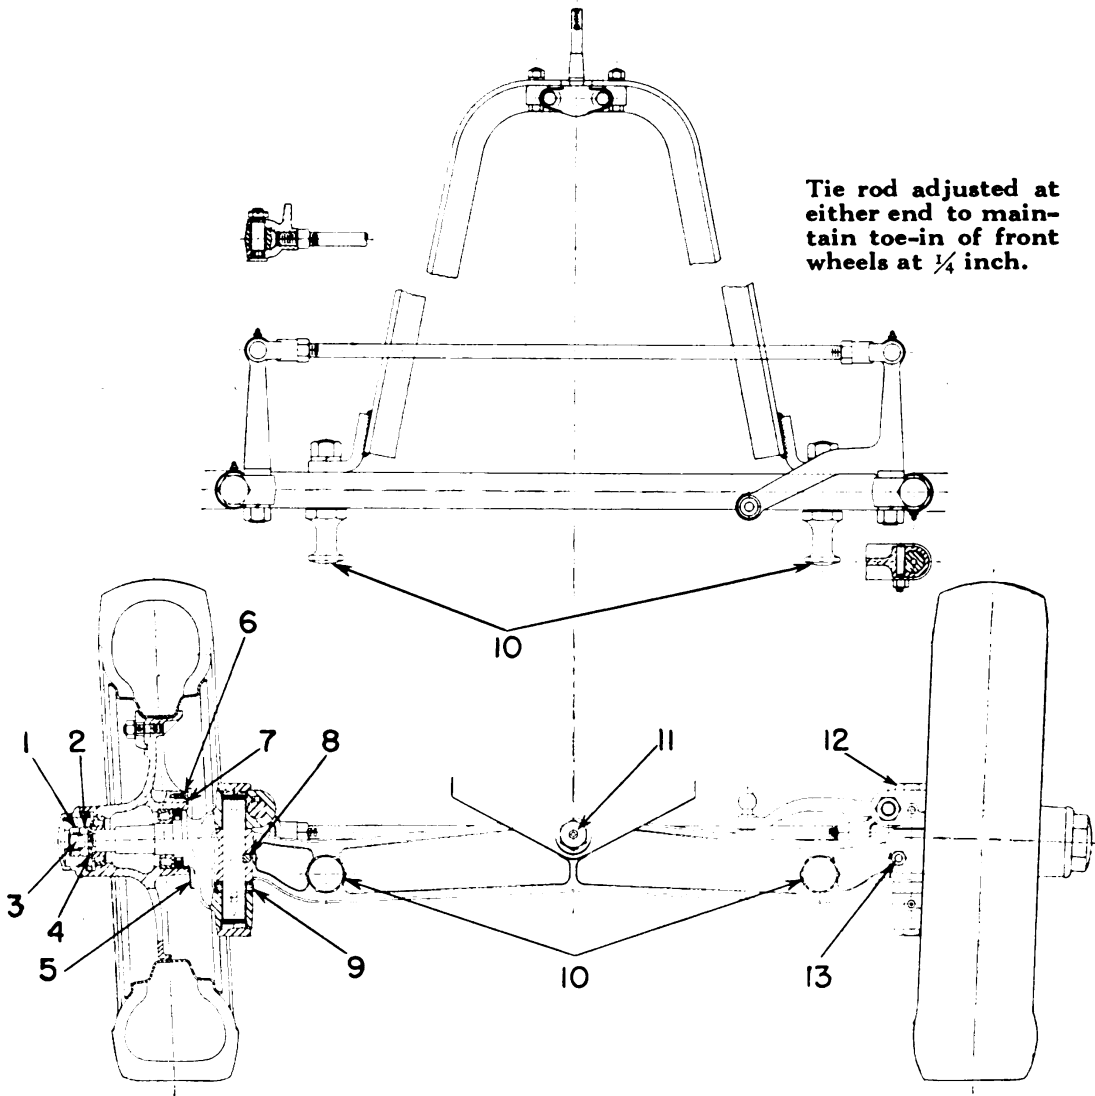

Fig. 91. Detail of Front Axle and Spindle
When it becomes necessary to install a new power take-off or replace one already in service, it should be done according to the following procedure. Careful study of Fig. 91 will be helpful in making the installation.
With the transmission case top cover removed (see page 92) and the cap for transmission end cover off, (1) Fig. 91 insert the power take-off shaft (2) through the rear cover.